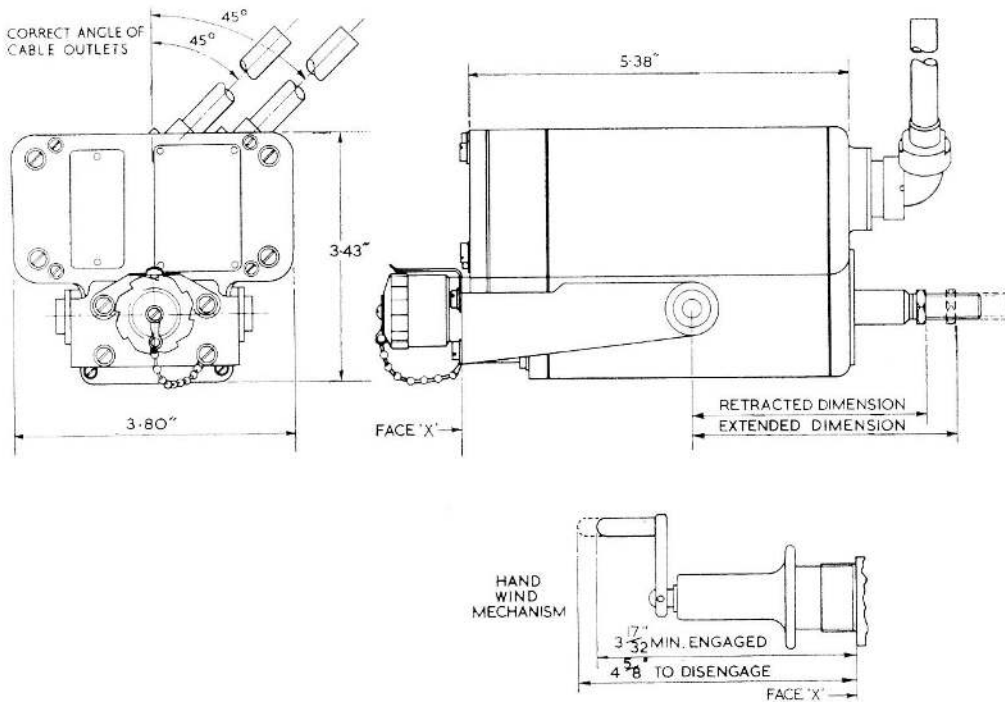

Fig. 6. Installation details
21. For details of an actuator installation in a particular aircraft, reference should be made to the appropriate Aircraft Handbook. Installation details are shown in fig. 6.